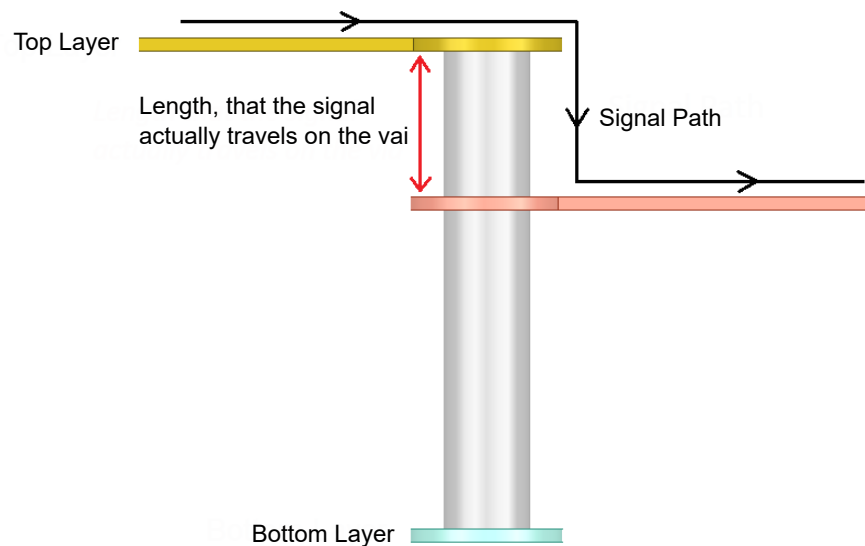

Figure 7. Length that the signal actually travels on the Via
3. At speed of 2400 MT/s, signal vias can be a significant source of crosstalk. If not properly designed, it can introduce crosstalk larger than that from the trace. To minimize via crosstalk, make sure that the number of vias on each point-to-point signal is no more than two. For T-topology signal, only one via at transmitter, one at T-junction, one at each receiver is allowed. Place at least one ground-stitching via within 50 mils of signal via when switching reference planes to provide a continuous return path and reduce crosstalk. If it is not possible to place enough ground-stitching vias due to space limitation, try to make the length that the signal actually travels on the via as short as possible, see Figure 7.